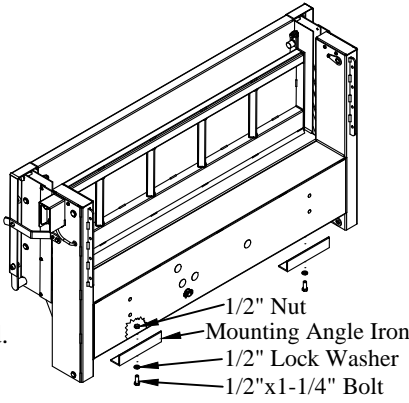

Figure 19: Mounting angle iron location.
- 1. Install** the two (2) mounting angle irons to the bottom of the liftgate (Figure 19).